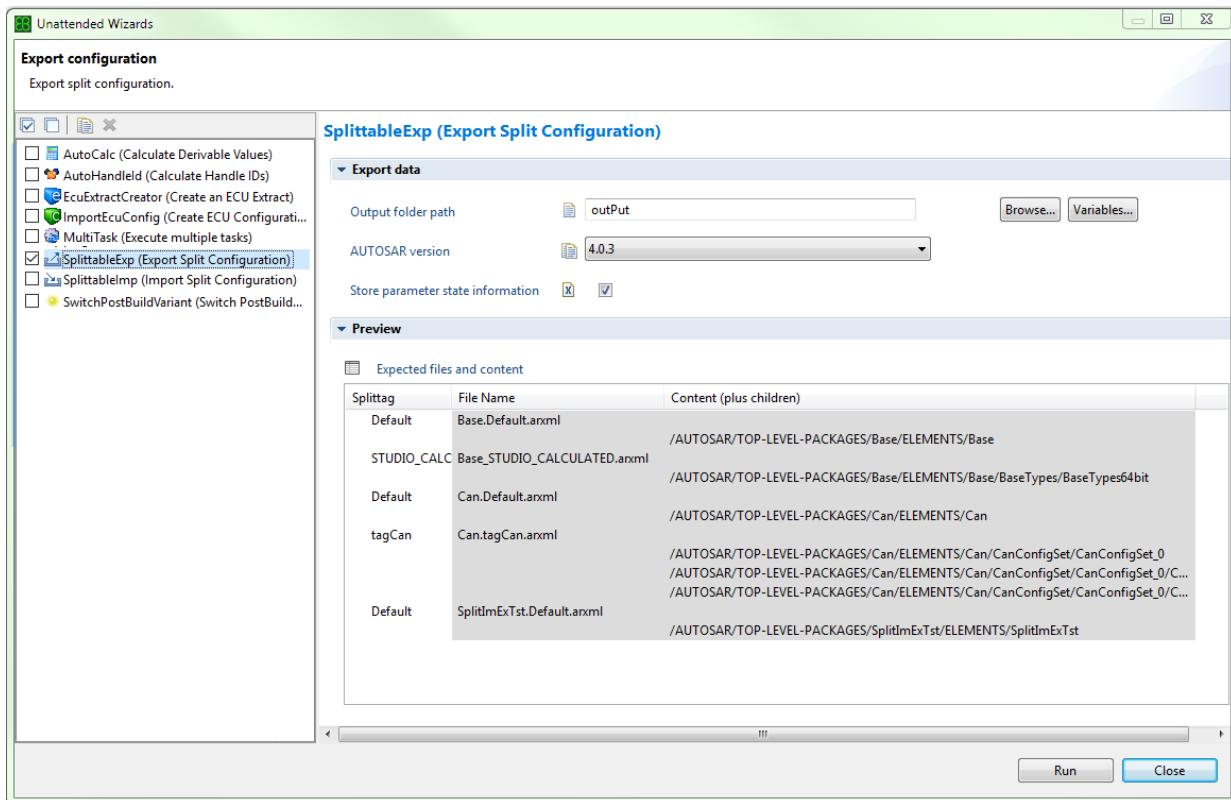

Figure 7.52. Opening the Export Split Configuration wizard
1. In the **Output folder path** text field, specify a valid output folder path. See Figure 7.52, “Opening the Export Split Configuration wizard” **Output folder path**.